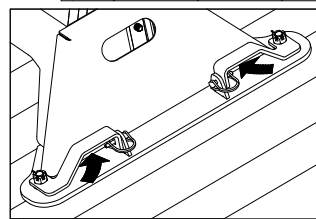

Figure C2:
2. **Prepare to adjust latch tension.** Once the base is in place, remove the cotter pins from each of the four castle nuts. Engage the cams with each attachment point by turning the latch handles back to their locked position, see Figure C2. If a handle will not turn easily, loosen the castle nut until the cam will freely turn and engage the attachment point.